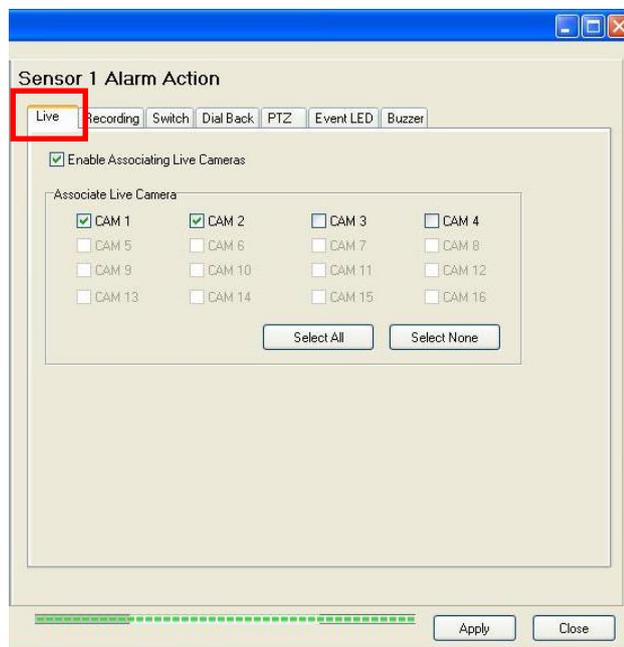

Fig 8.2.1a
Step 1 : In {(Event) Action} panel, click [Live] option to set live camera setting as Fig 8.2.1a.